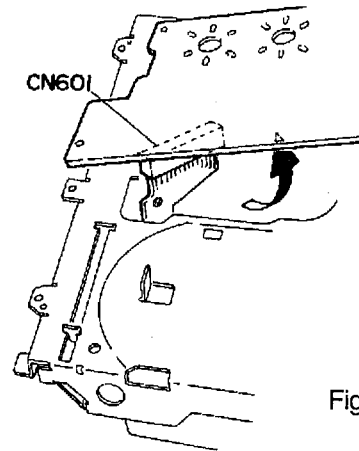

Fig.11
6. While raising the P.C. board, perform soldering to fill the position on the flexible P.C. board outgoing from the CD pickup unit (See Fig.11).
7. After turning over the CD traverse mechanism, remove the flexible P.C. board from the connector CN601 on the CD traverse mechanism control & servo P.C. board (See Fig.11).